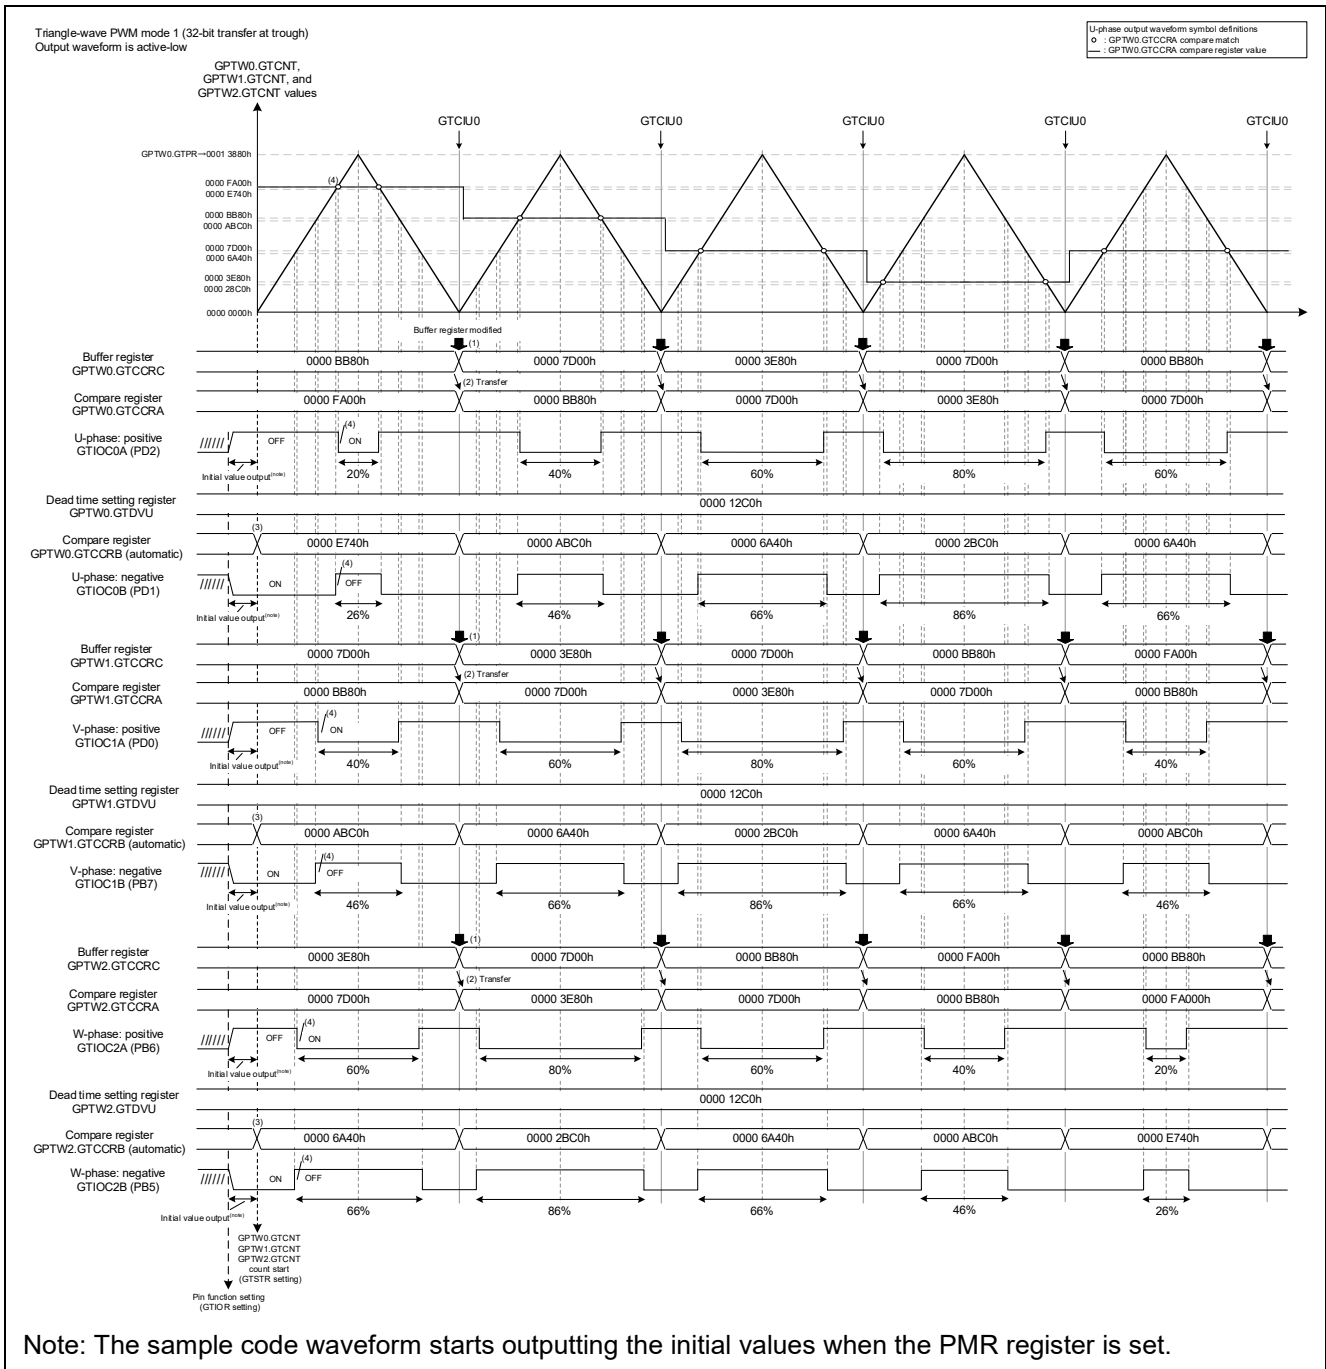

Figure 4.42 Sample Code Operations
- Refer to Figure 4.42 for details on duty change timing
The sample code operations are shown in Figure 4.42. The settings of the duty cycle are changed with each period by modifying the value of buffer register GTCCRC at the GTCNT counter underflow interrupt (GTCIU0) ((1) in Figure 4.42).
This sample code uses triangle-wave PWM mode 1, which transfers at the trough, to update data by transferring the value of the buffer register to compare register GTCCRA when a GTCNT counter underflow occurs ((2) in Figure 4.42).
In addition, the GTCCRB register is automatically set according to the GTCCRA update because the automatic dead time function is used. The same values are set for the GTDVU and GTDVD. This sample code automatically sets the GTCCRB value at counting starts ((3) in Figure 4.42).
After counting starts, a compare match occurs between the compare register and the counter register, negative-phase output turns OFF, and then positive-phase output turns ON ((4) in Figure 4.42)).